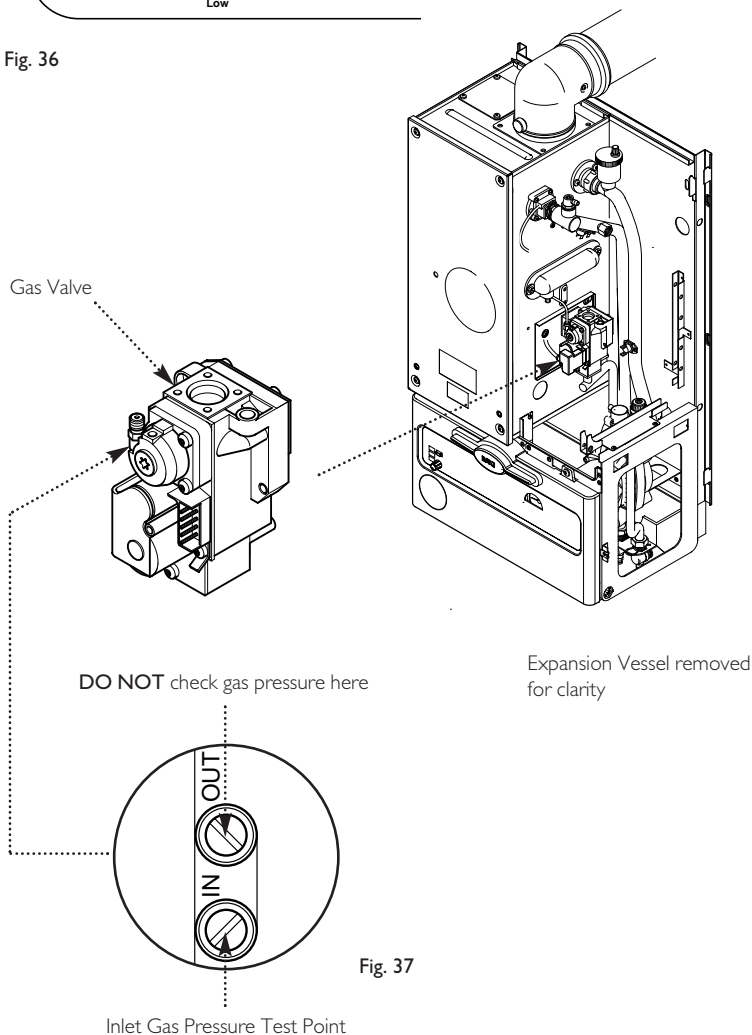

Fig. 37
12. After a period of 3 minutes and with all the system controls calling for heat, check the gas pressure at the inlet tapping of the gas valve (Fig. 37) is within the limit given in section 4.0 and the gas rate is no greater than maximum specified.